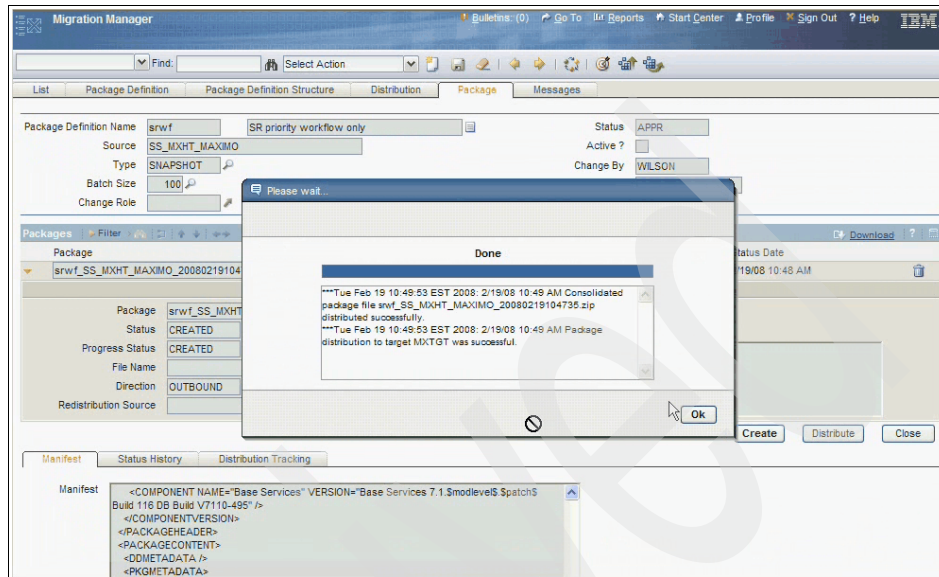

Figure 8-40 Package distribution in progress
3. Click the **OK** button to continue. A dialog box is displayed that indicates distribution progress, as shown in Figure 8-40.